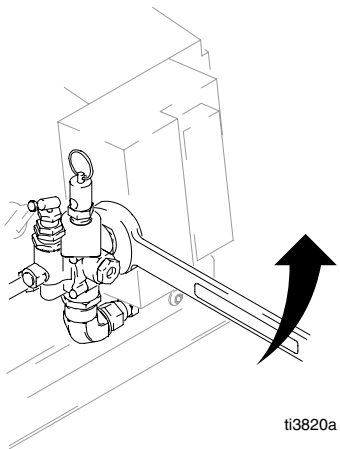

Fig. 14
2. Remove air line at compression fitting. Fig. 14.